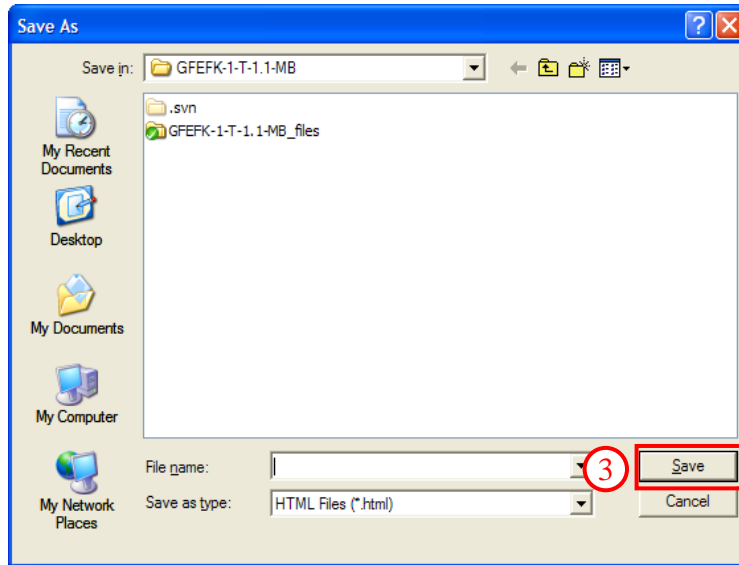

Figure 87. Save Report - Save As Dialog
3. A Save As dialog is displayed (Figure 87). Navigate to the desired save location, enter a File name and click the [SAVE] button.